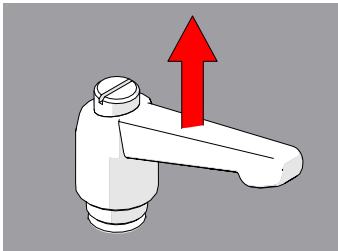

Fig. 40 - Pull ratchet handle
1. Pull the ratchet lever away from the base to which it is connected (*Fig. 40*).